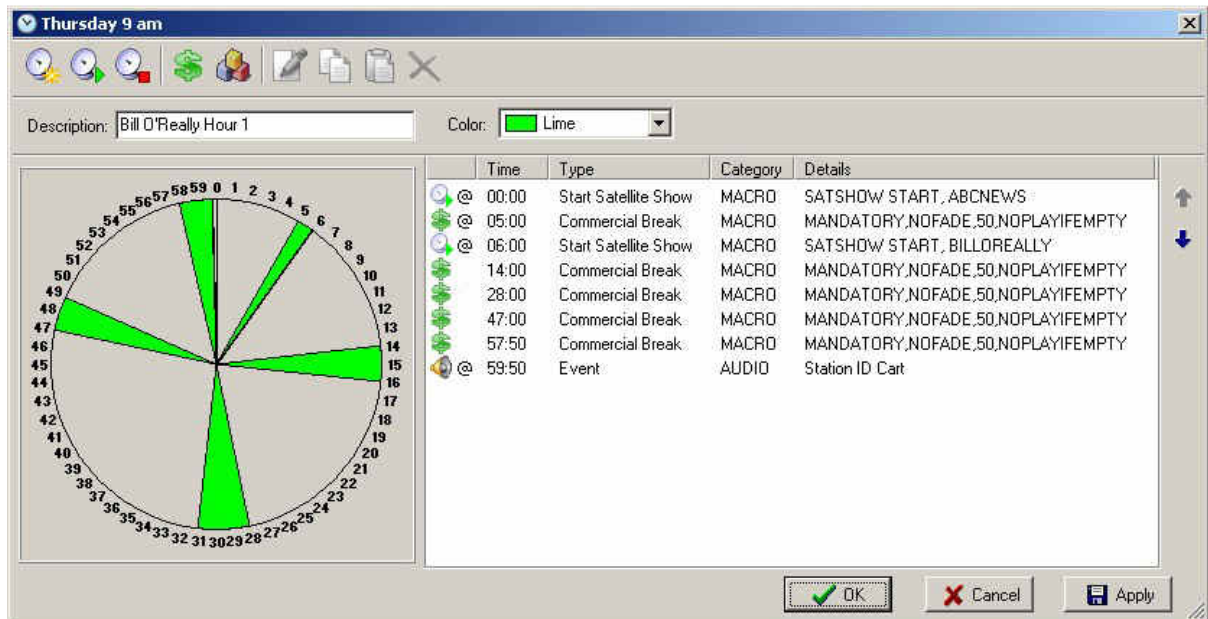
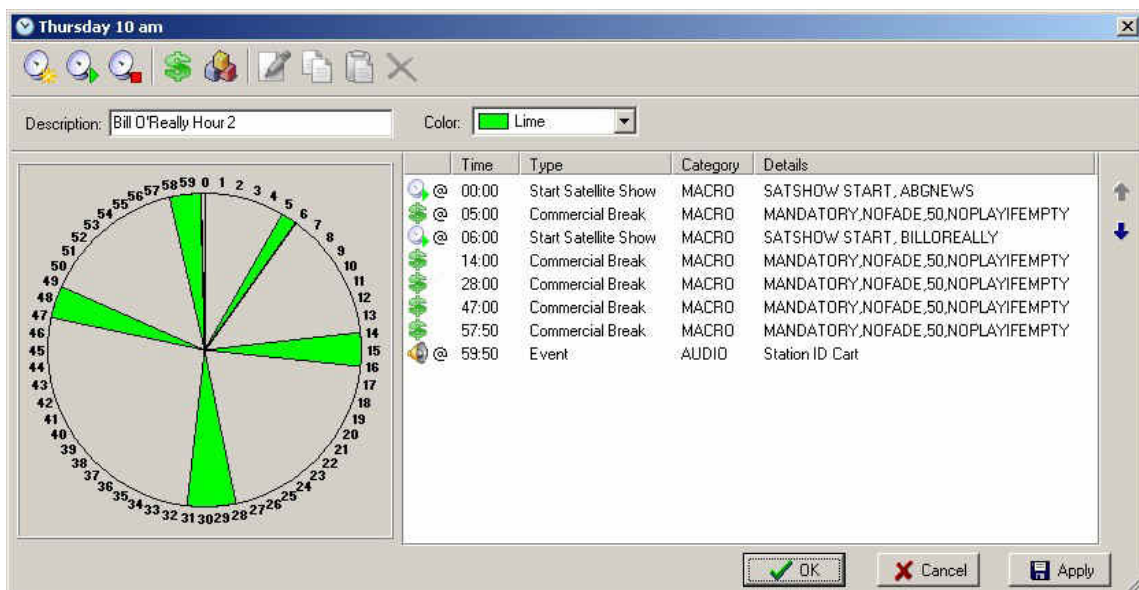
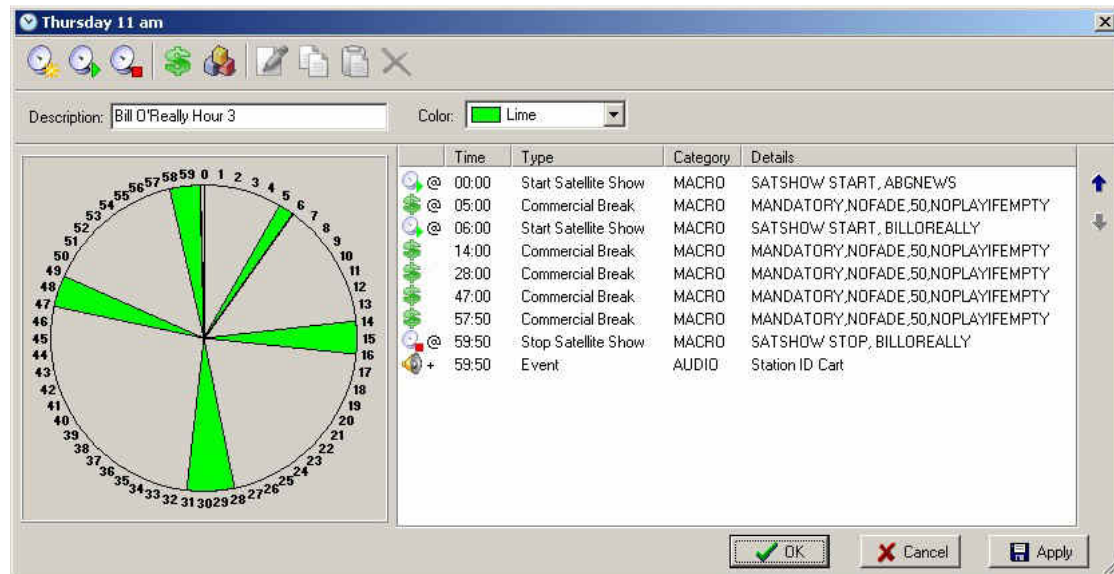

Figure 8-16. Hour One of a Multi-hour Satellite Show Example
Figure 8-17. Hour Two of a Multi-hour Satellite Show Example
Figure 8-18. Hour Three of a Multi-hour Satellite Show Example
- In Figure 8-16, Figure 8-17, and Figure 8-18, each hour is nearly identical, except for the first two hours not containing a stop satellite show event, while the third hour does.